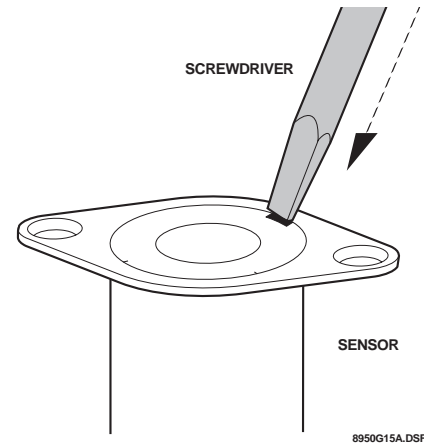

Figure 3. Removing the Sensor Cap
- 5) Using a small screwdriver, remove the sensor tube cap (see Figure 3).
**WARNING:** Do not grasp the reed switch lead as it may break (see Figure 3).
- 4) Remove the sensor cover by inserting the tip of a small screwdriver or file into the notch of the cap and gently pry it from the sensor tube (see Figure 3).